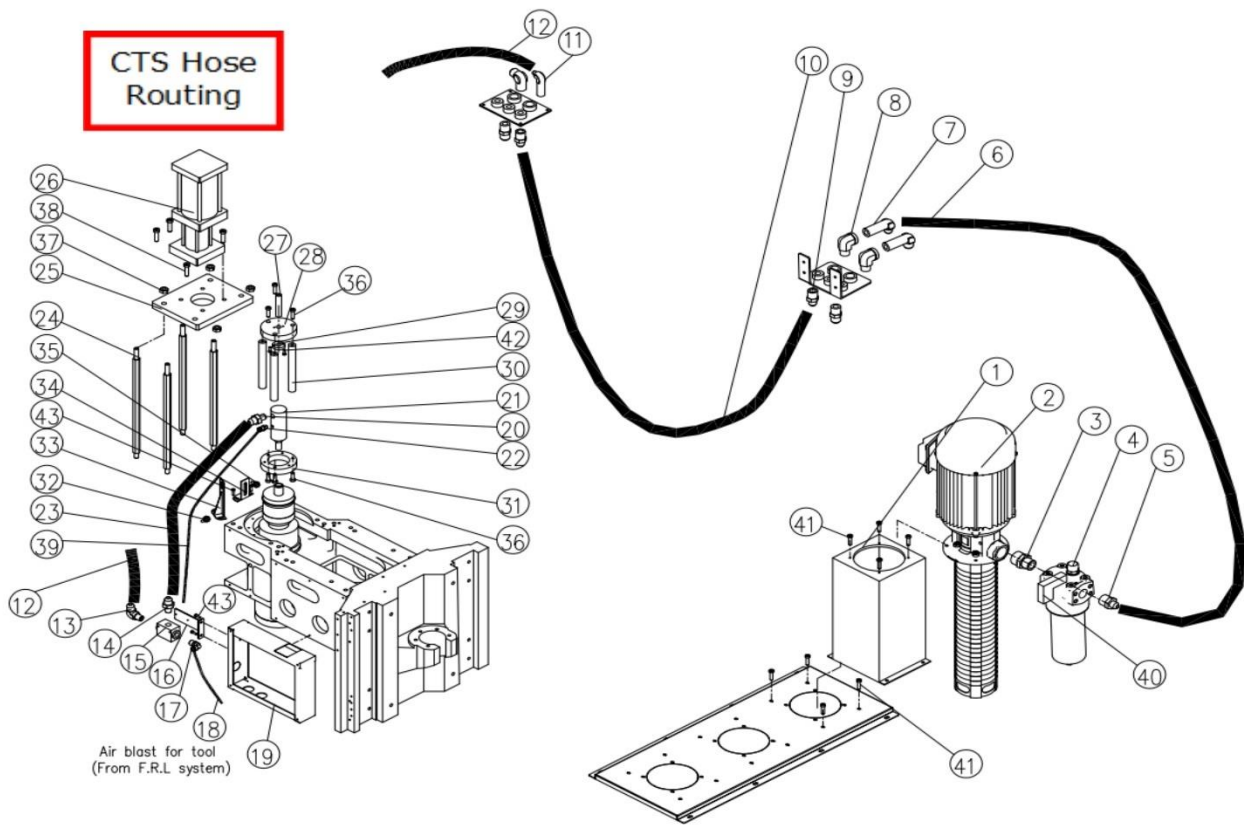

Figure 2.11b
3. A hose needs to be routed from the coolant pressure sensor to a bracket as shown as hose #6 in figure 2.11b.